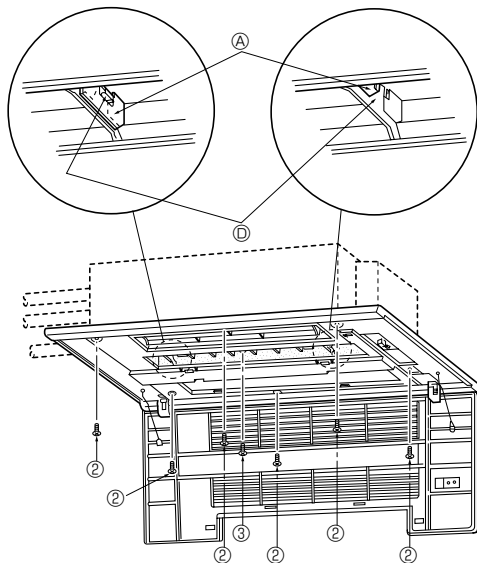

Fig. 5-5
- Adjust the front panel so that it fits properly in the angle between the ceiling and the wall, and install the securing bolts Ⓔ (supplied with this grille) in their four places at left and right, leaving them slightly loose. (Fig. 5-5)
#### [Fig. 5-5]